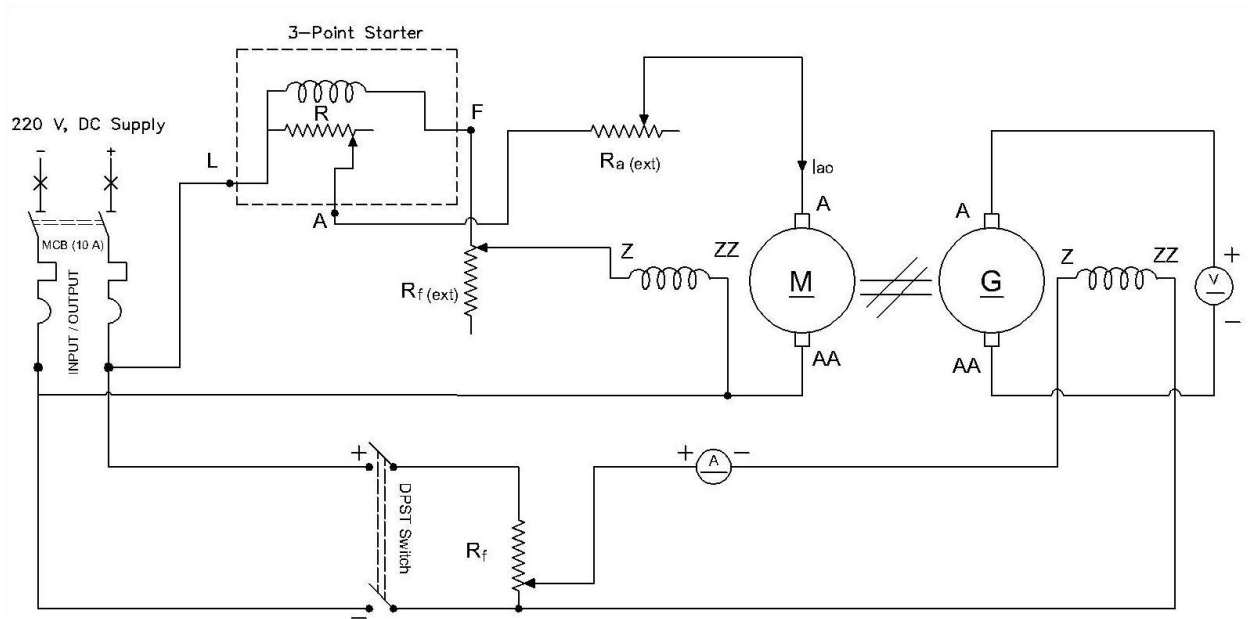

Fig.6.1
1. Connect the generator as shown in Fig.6.1